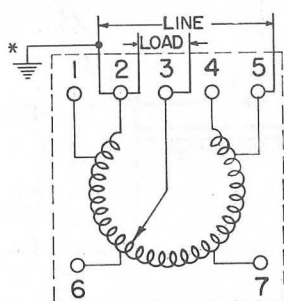

FIGURE 4
Dials are normally supplied for overvoltage operation, Figures 4, 6, 7, and 9. Dials for line voltage limit operation are available on special order. Dials are two-sided to permit either dial or pointer rotation, clockwise voltage increase being the rule in both cases. Pointers are provided on knobs, permitting fixed dial and moving pointer operation for panel mounting.
RECOMMENDED CONNECTIONS are diagrammed in Figures 4 to 9 inclusive.
2. When using overvoltage circuit (Figures 4, 6, 7, 9) be sure connected load will stand overvoltage.